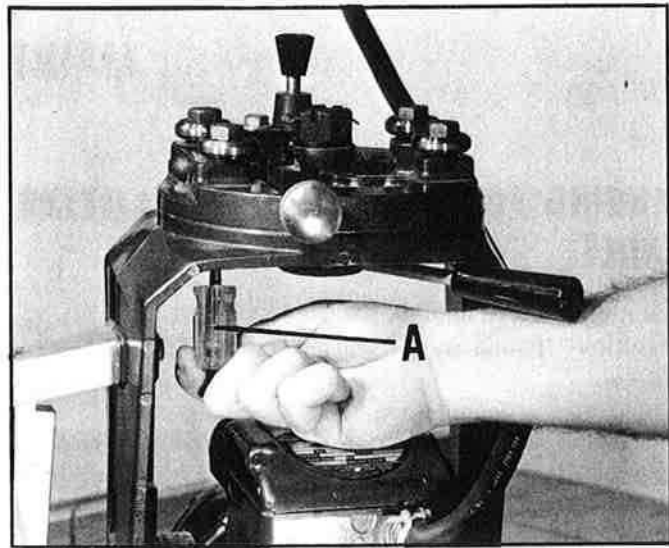

Fig. 35
4. Using a small screw driver (A) Fig. 35, turn screw slightly until all play is removed.
(For clarity Fig. 35 is shown with the cuttinghead removed. The adjustment should be made with the cuttinghead at the center of the track.)